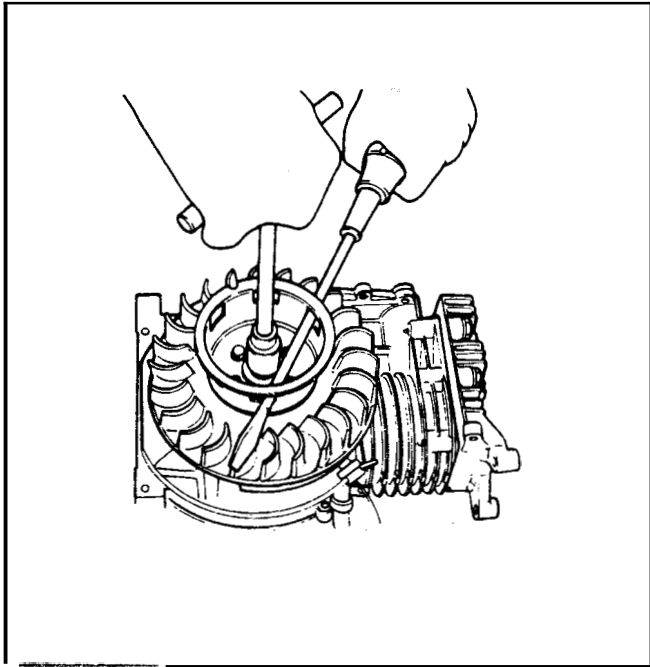

Figure 113
23. Install the flywheel nut. See Figure 113.